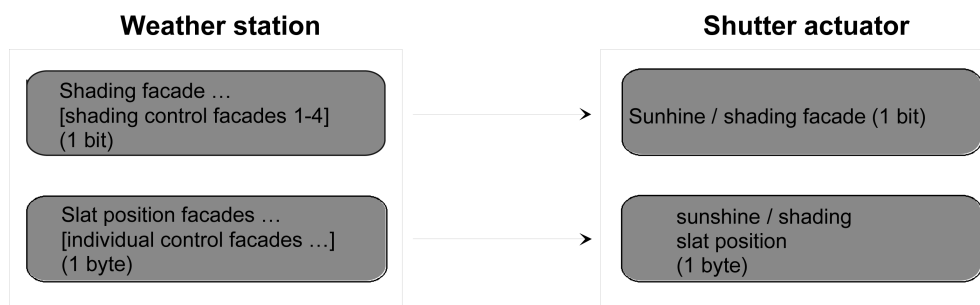

Figure 24: Programming of the communication objects for application example III
- fixed blind position setting.(figure 24)